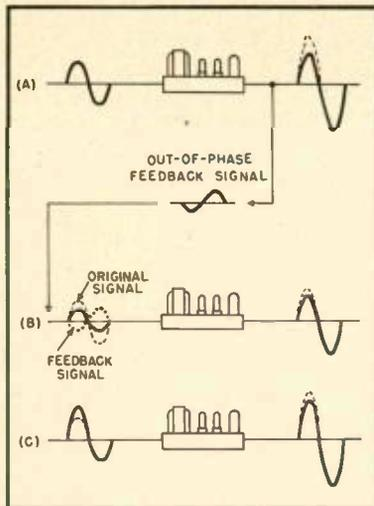

Fig. 2. How negative feedback corrects for distortion. The steps illustrated take place practically instantaneously.
The amplifier and power supply, illustrated in Figs. 2 and 3, were constructed on the same 13  $\times$  17  $\times$  3-in. alu-
are, so to speak, pictorially sited together in intimate contiguity as of houses in, say, an Italian mountainside village. The arrangement, in fact, places what is in this case the most used article—the tape recorder—above the comfortable height for handling (which should be, as broached in this department last year, on a level with your bent elbow, neither much lower nor much higher). But let us observe the amenities of open-mindedness and hold ourselves to a quite "linear" reaction to this departure from the rules of operational convenience. For, though our audiophile's audio-pile may run counter to the tenets of the counter-top school of hi-fi component concealment, we shall have to concede that reader Crofford's array of cases and cabinets holds more than we would ordinarily permit the first casual, jaundiced glance of our interior-decoration indoctrinated eye to perceive. See the block diagram, *Fig. 2*.
Fig 1 (left). No wallflowers are these vociferous hi-fi furnishings. Line-up shows Klipschorn main speaker system; Ampex electronics assembly in case over separate speaker for TV, with mechanical assembly in case atop TV cabinet. At right is Marantz Audio Console over phono and radio cabinet which also houses main power amplifier. Below it is the REL Precedent FM tuner. Fig. 2 (right). Chassis of amplifier and separate power supply in pre-tube-mounting stage. Tube sockets are Vectors; wiring on underside is cabled; transformers are completely potted.
Figure 2 illustrates the automatic correction applied by negative feedback. The steps illustrated in sequence show the transmission of the signal through the amplifier and back through the feedback circuit; the time taken by each step is so small that it cannot be measured by ordinary methods, and the process may be considered instantaneous.
The distorted amplification of a sine wave is illustrated in (A) of Fig. 2. Part of the distorted output signal is tapped from the amplifier output and fed back to the input in such a way that the phase is exactly opposite, as illustrated in (B). Notice that the feedback signal is fed back to a point before that at which the distortion was generated, so that the distorted signal is mixed out of phase with an undistorted signal.
Two things must happen. The original input signal will be reduced in strength, and a corrective enlargement of the first half-cycle will appear in its waveform. It is as though the circuit knows what the amplifier is going to do to the signal's positive peak and sends in the signal forewarned and forearmed. Where the defective amplifier will not furnish enough gain, at the positive signal peak, the signal itself is pre-compensated by having too much voltage relative to the negative half-cycle. The output signal shown in (B) of Fig. 2 is reduced in power but has a lower percentage of distortion.
It is important to know that while gain is sacrificed by negative feedback, amplifier power capability is not. The third step in the feedback process is illustrated in (C) of Fig. 2. The cor-
The problem of recording amplifiers is solved conventionally by connecting the recording head to a voltage amplifier through a high resistance as in Fig. 2. However, this has the disadvantage that over the greater part of the frequency range only a small fraction of the available output amplitude is used in the recording head, the rest being uselessly dissipated in the series resistor  $R$ . In the recording amplifier described in this article and shown in basic form in Fig. 3, the load is directly connected to the anode of the output tube, thereby
Fig. 2. Usual method of operation is to use a medium-impedance amplifier with a large series resistor to achieve constant recording-head current. This is wasteful.